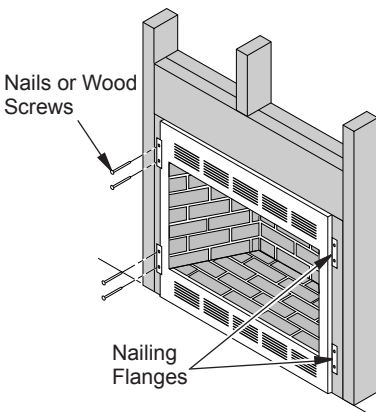

Figure 9 - Attaching Firebox to Wall Studs (Model May Vary From Illustration)
5. Attach firebox to wall studs using nails or wood screws through holes in nailing flange (see Figure 9).